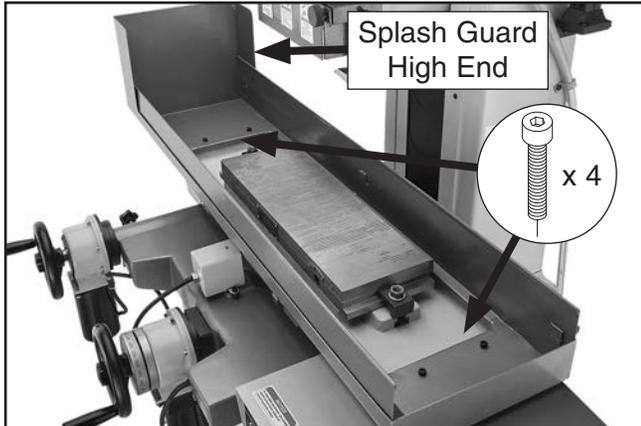

Figure 24. Splash guard base attached.
21. Position splash guard base on table with high end to the left of machine, as shown in **Figure 24**.
22. Secure splash guard base with (4) M6-1 x 12 cap screws, as shown in **Figure 24**.